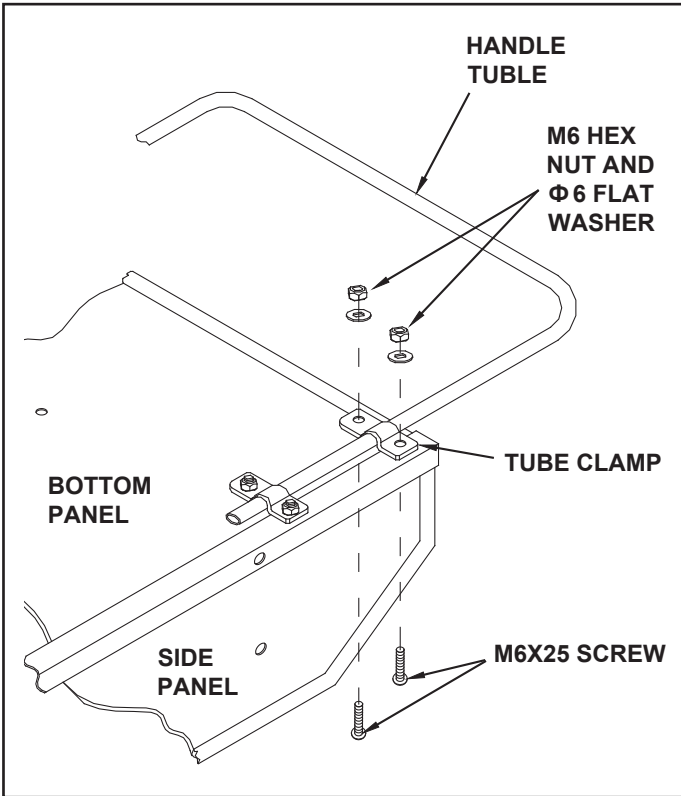

FIGURE 10
16. Turn the cart upside down. Place the handle tube on the bottom of the cart as shown in figure 10. Place the four tube clamps over the handle tube, **with the longer leg of each tube clamp to the outside**. Secure the four tube clamps over the handle tube using eight M6X25 screws, eight flat washers and eight hex nuts. Make only finger tight until all eight screws are in place and then **tighten securely**. See figure 10.
The length of the handle tube can be adjusted by sliding the tube in or out before tightening the four clamps. see figure 10.